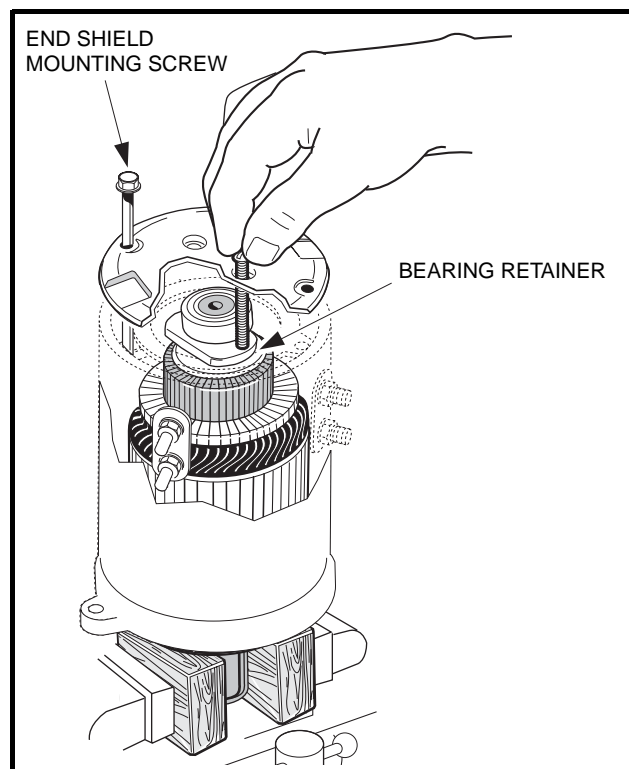

Figure 16-12 End Shield Installation
**NOTE:** Use a long screw with the same thread specifications as the mounting screws to maintain hole alignment while starting the first mounting screw (Figure 16-12, Page 16-11).